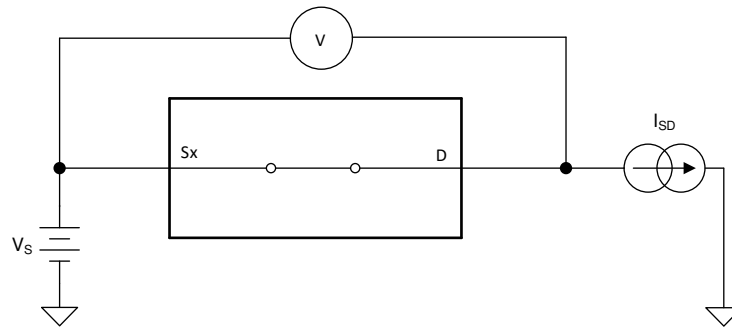

图 6-1. On-Resistance Measurement Setup
The on-resistance of a device is the ohmic resistance between the source (Sx) and drain (D) pins of the device. The on-resistance varies with input voltage and supply voltage. The symbol R_{ON} is used to denote on-resistance. The measurement setup used to measure R_{ON} is shown in 图 6-1. Voltage (V) and current (I_{SD}) are measured using this setup, and R_{ON} is computed with $R_{ON} = V / I_{SD}$: